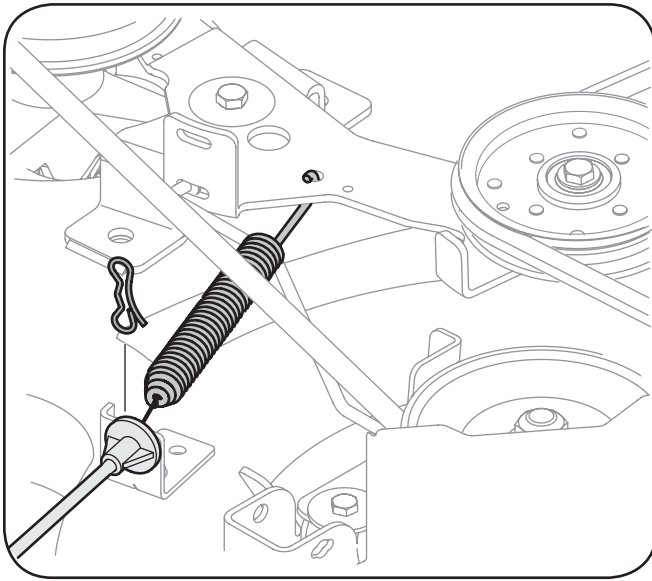

Figure 7-4
9. Carefully remove the PTO cable from the rear of the cutting deck by removing the hair pin clip which secures it. Remove the spring from the deck idler bracket. See Figure 7-4.